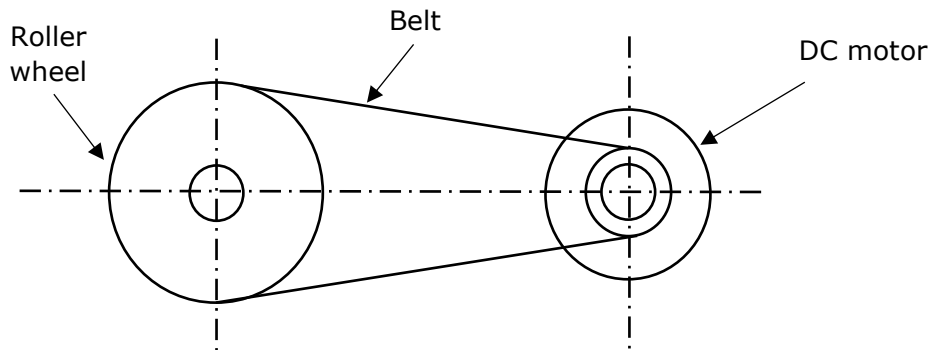

Figure 8
The mechanical system in Figure 8 was used to reduce the roller speed.
- a. Name the type of mechanical system in Figure 8. _____ (1)
- b. Name which component from Figure 8 is being used to transfer the rotational motion of the DC motor to the roller display wheel.
- c. On Figure 8 draw the rotating direction of the roller wheel. (1)
- d. The DC motor works with a voltage of 24 V. A current of 10 A is needed for the DC motor to work. Find the power rating of the motor. (3)